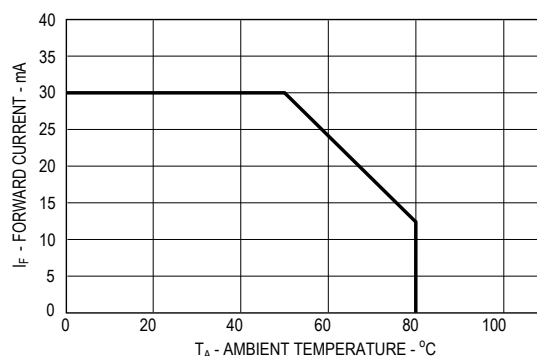

Figure 4. Maximum forward current vs. ambient temperature.
1. Derate linearly as shown in Figure 4 for temperatures above 50°C .